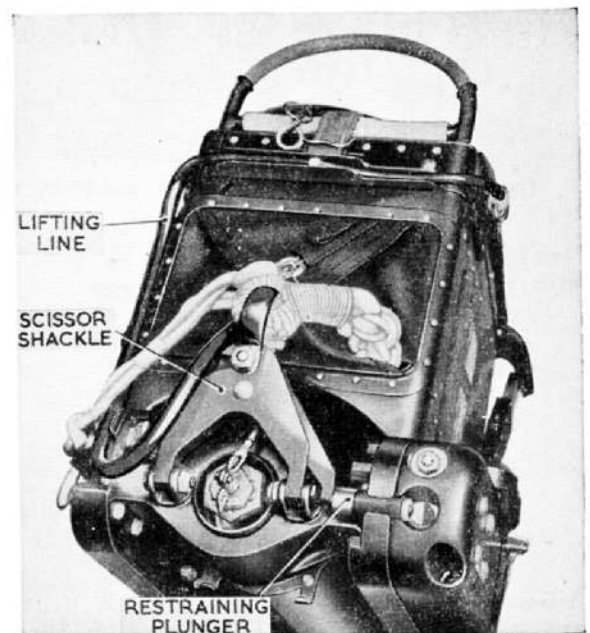

Fig. 14. Fitting the lifting lines
25. Commencing at the front of the drogue container, press the lifting lines down into their clips, using thumb pressure, until the final result is similar to that shown in fig. 14.